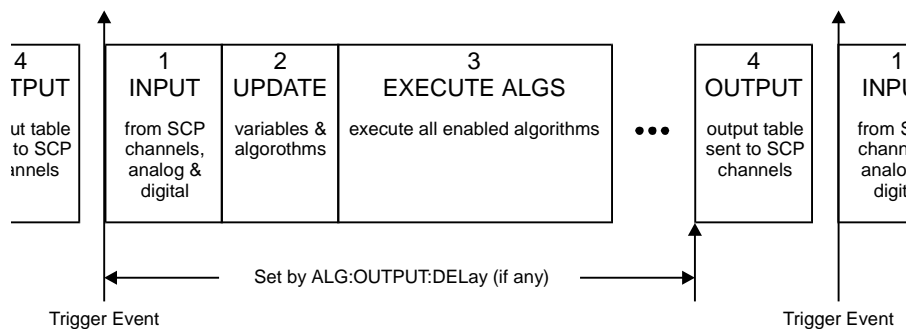

Figure 6-1. Updating Variables and Algorithms
outputs when they are executed. Instead, these statements write to an intermediate Output Channel Buffer which is read and used for output AFTER all algorithms have executed AND the algorithm output delay has expired (see Figure 6-1). Also note that not all outputs will occur at the same time but will take approximately 10usec per channel to write.
- Variables and algorithms can be accepted during Phase 1-INPUT or Phase 2-UPDATE in Figure 6-1 when INIT is active. All writes to variables and algorithms occur to their buffered elements upon receipt. However, these changes do not take effect until the ALG:UPD:IMM command is processed at the beginning of the UPDATE phase. The update command can be received at any time prior to the UPDATE phase and will be the last command accepted. Note that the ALG:UPD:WINDOW command specifies the maximum number of updates to do. If no update command is pending when entering the UPDATE phase, then this time is dedicated to receiving more changes from the system.
ALGORITHM:UPDATE:CHANNEL <dig_chan> This command is used to update variables, algorithms, ALG:SCAN:RATIO, and ALG:STATE changes when the specified digital input level changes state. When the ALG:UPD:CHAN command is executed, the current state of the digital input specified is saved. The update will be performed at the next update phase (UPDATE in Figure 6-1), following the channel's change of digital state. This command is useful to synchronize multiple HP E1422s when you want all variable updates to be processed at the same time.
- The duration of the level change to the designated bit or channel MUST be at least the length of time between scan triggers. Variable and algorithm changes can be accepted during the INPUT or UPDATE phases (Figure 6-1) when INIT is active. All writes to variables and algorithms occur to their buffered elements upon receipt. However, these changes do not take effect until the ALG:UPD:CHAN command is processed at the beginning of the UPDATE phase. Note that the ALG:UPD:WINDOW command specifies the maximum number of updates to do. If no update command is pending when entering the UPDATE phase, then this time is dedicated to receiving more changes from the system.